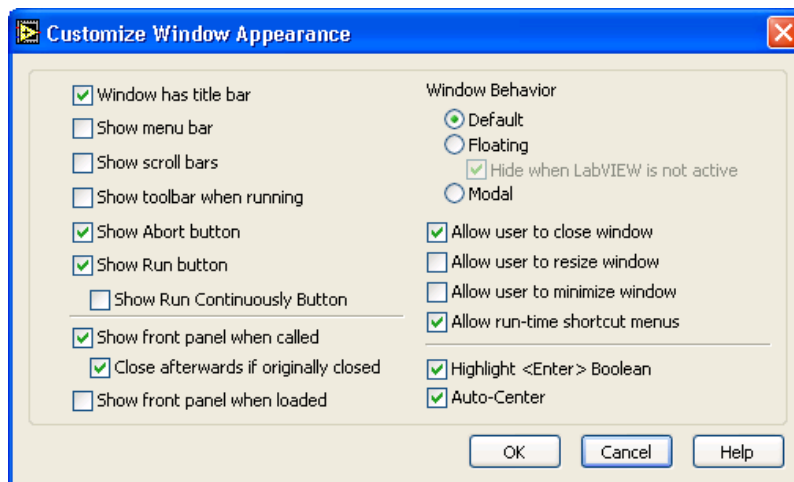

Figure 12.3
- Click the Customize button. Configure the window appearance as shown in the dialog box (Figure 12.3).